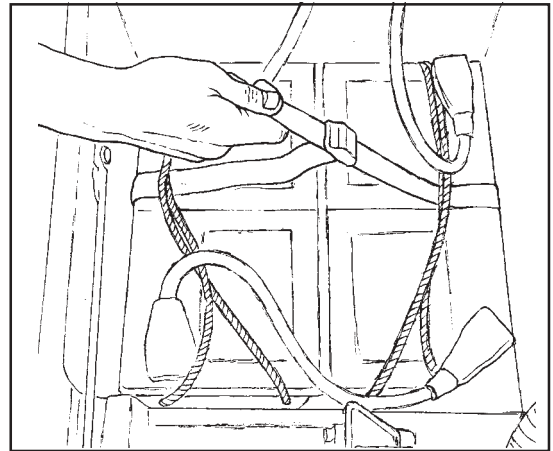

Figure 12
- Secure the batteries in place with the battery straps (See Figure 12).